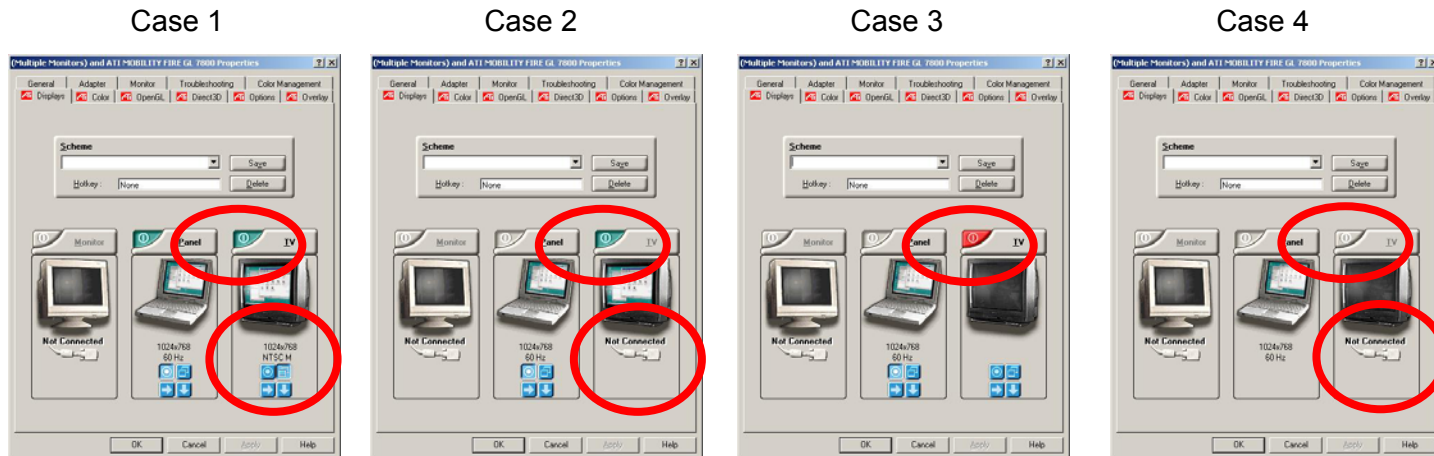

Figure 2-1.- Multiple monitors and ATI mobility fire GL 7800 display tab.
6. ✓ 'Displays' tab against fig 2-1 cases' circled areas and perform matching case steps below: